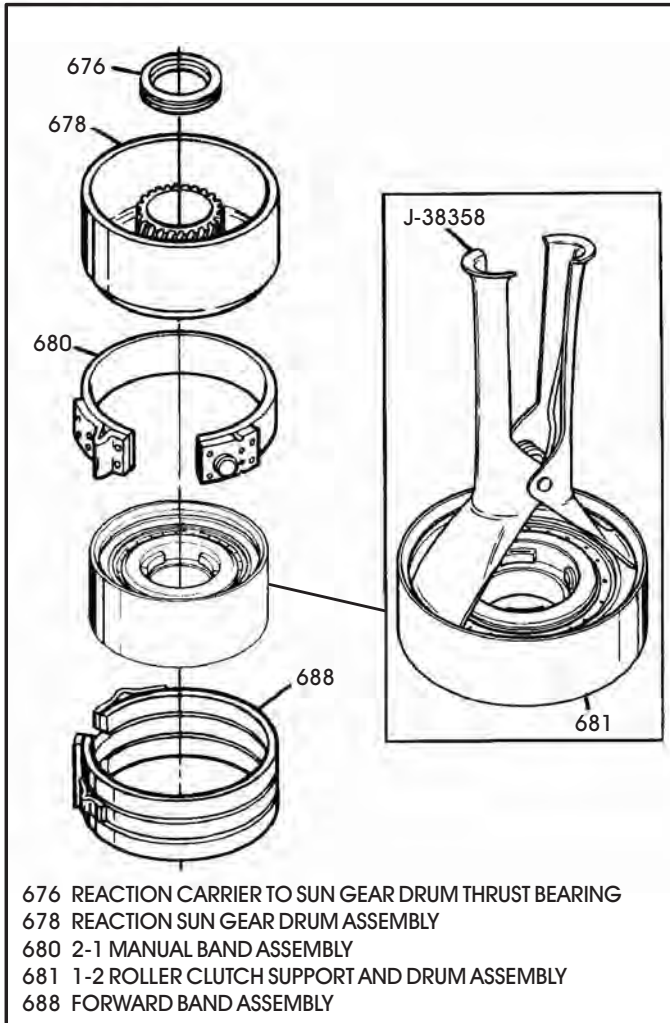

Figure 72
51. Remove the reaction carrier to reaction sun gear drum thrust bearing (See Figure 72).
52. Remove the reaction sun gear drum assembly, as shown in Figure 72.
53. Remove the manual 2-1 band assembly from the case, as shown in Figure 72.
54. Using special tool J-38358, remove the 1-2 roller clutch support and drum assembly, as shown in Figure 72.
55. Remove the forward band assembly from the case, as shown in Figure 72.